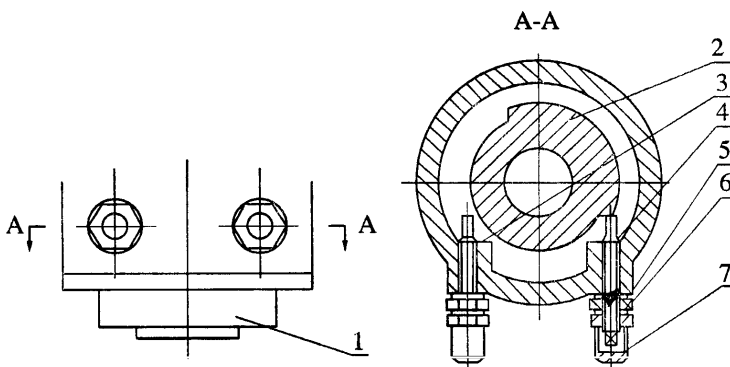

图7 机械限位机构 Fig.7 mechanical stopping
2.2 关闭位置采用机械限位时, 转矩机构的调整, 见图7
2.2 Adjustment for closing by mechanical stopping (Fig. 7)
- 12.3 图 7 中序 3 应为关向调节螺钉，序 4 应为开向调节螺钉，调整说明中 2.2 “调节关向调节螺钉 4”应改为“调节关向调节螺钉 3”。
- 12.3 In Fig.7, No.3 shall be changed into setting screw for closing and No.4 shall be changed into setting screw for opening. In item 2.2.2 of chapter 7 shall be changed into “Adjust the setting screw 3 for closing...” .